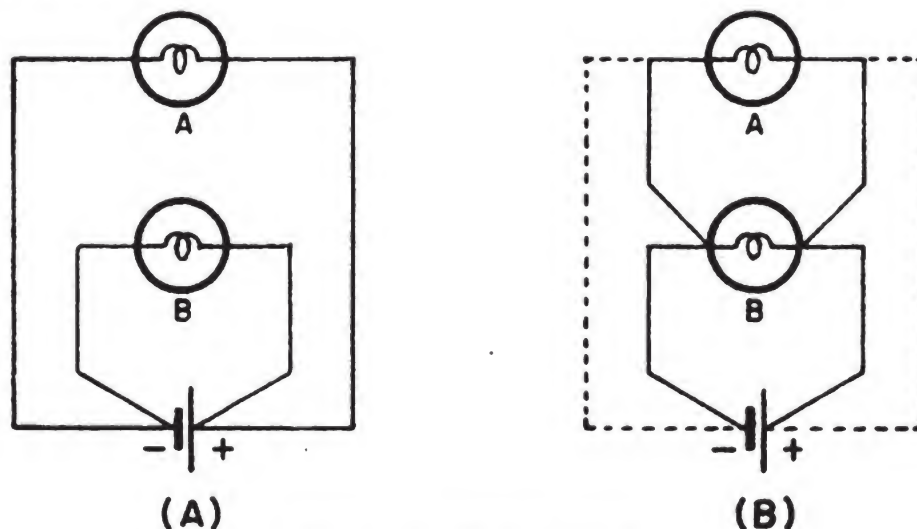

Figure 12.—Parallel circuit.
In (A) of figure 12, you have an illustration of two lamps connected in a **PARALLEL CIRCUIT**. In (B) of figure 12, you also have a parallel circuit. But the connections from device A are brought to device B. This results in a saving of wire.